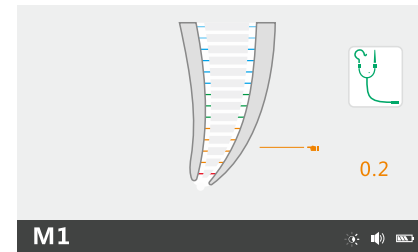

Fig. 24 Set the apex position
- Press the SET key, the apex setting icon becomes adjustable state, (Fig.24).